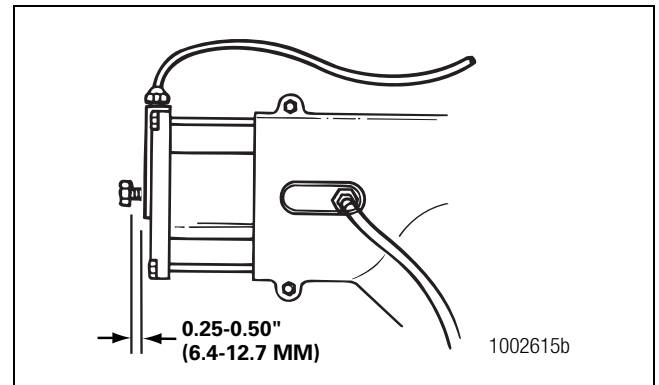

Figure 11.8
- D. Turn the capscrew to the right until the head is approximately 0.25 to 0.50-inch (6.4 to 12.7 mm) from the cylinder. The capscrew is now in the service position and the DCDL shift collar is locked (engaged). Figure 11.8. When turning the capscrew you will feel a small amount of resistance. This is normal. If you feel a high resistance before achieving the 0.25- to 0.50-inch distance between the capscrew head and cylinder, STOP TURNING THE CAPSCREW and continue with Steps E and F.